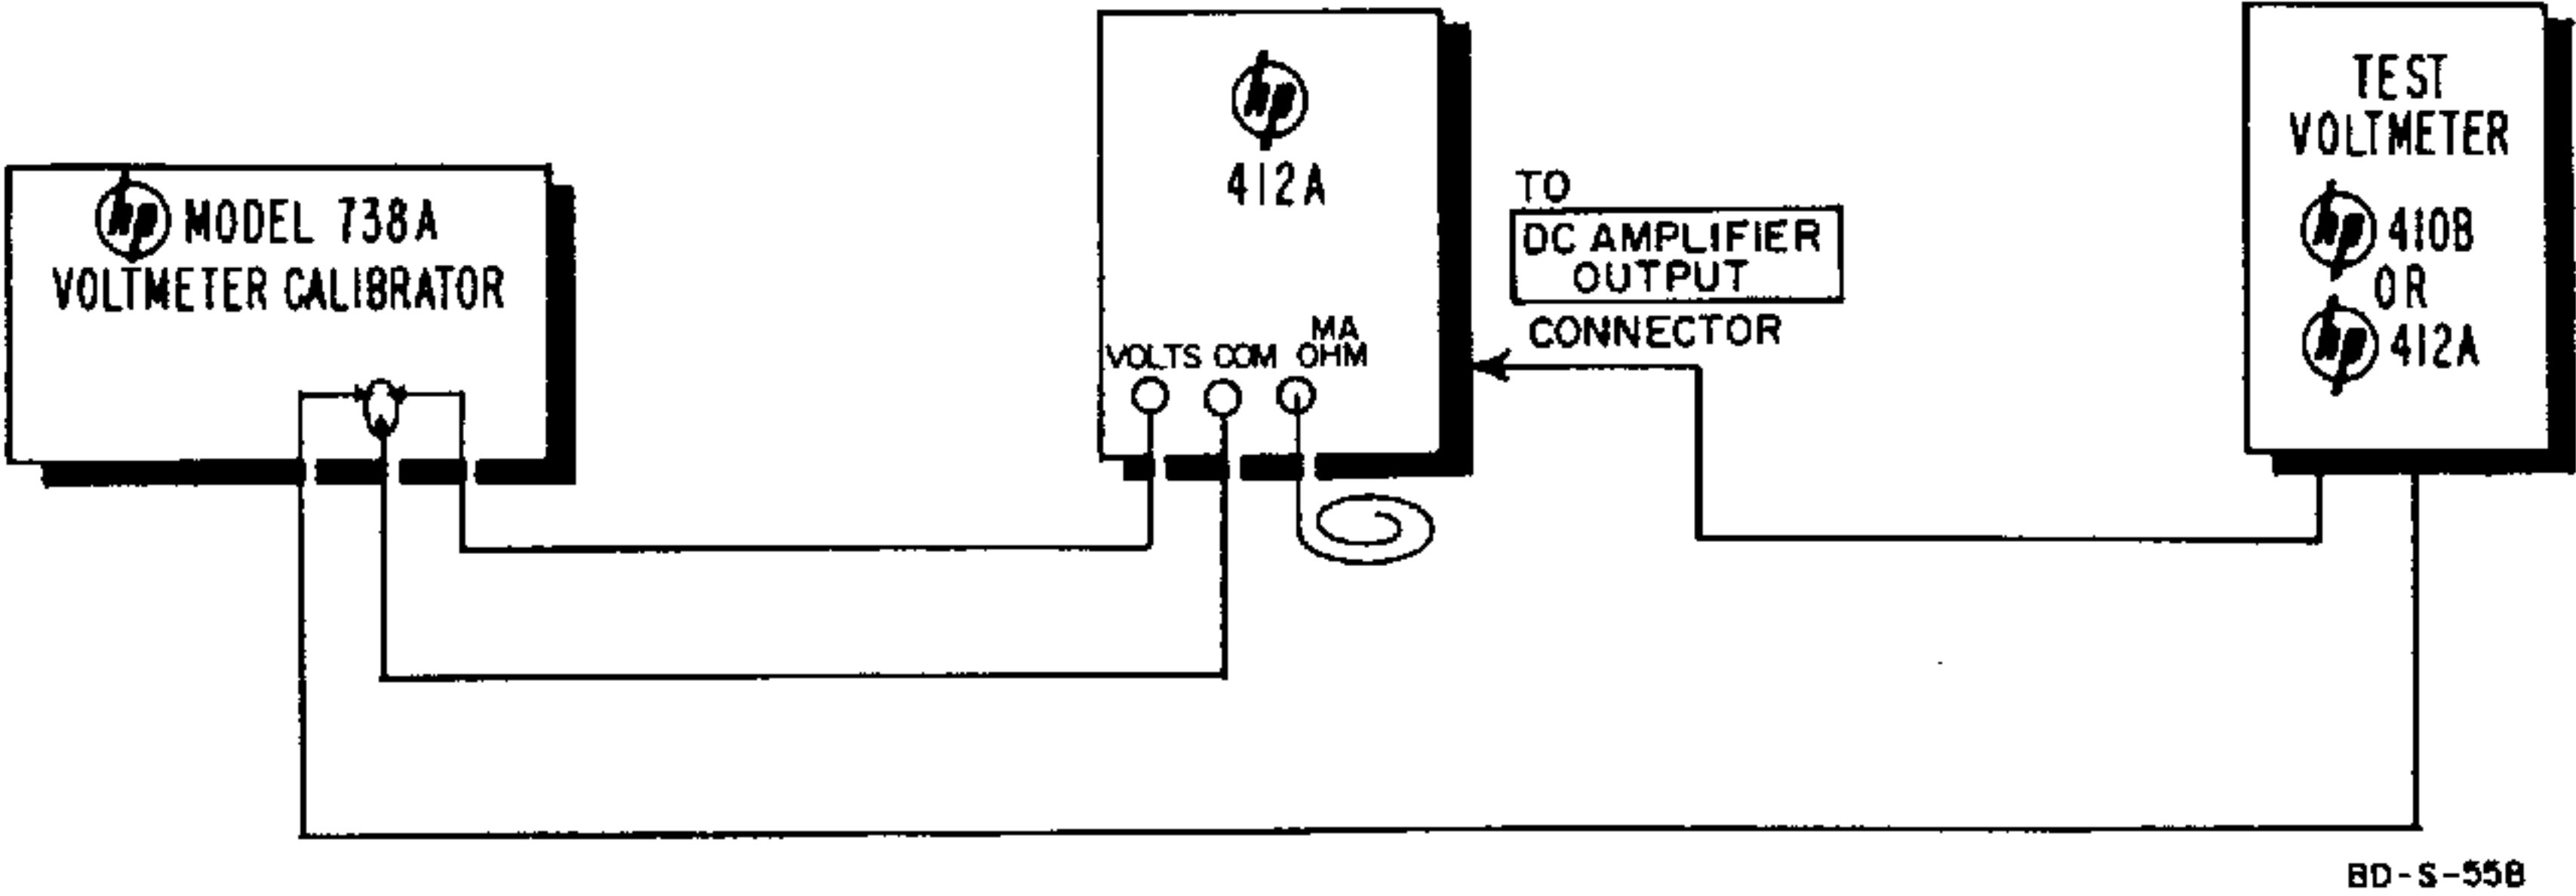

Figure 4-3. Equipment Setup for Amplifier Gain Calibration
- a. Connect equipment as shown in figure 4-3. You may replace the test voltmeter with any high resistance meter device which can resolve 10 mv.